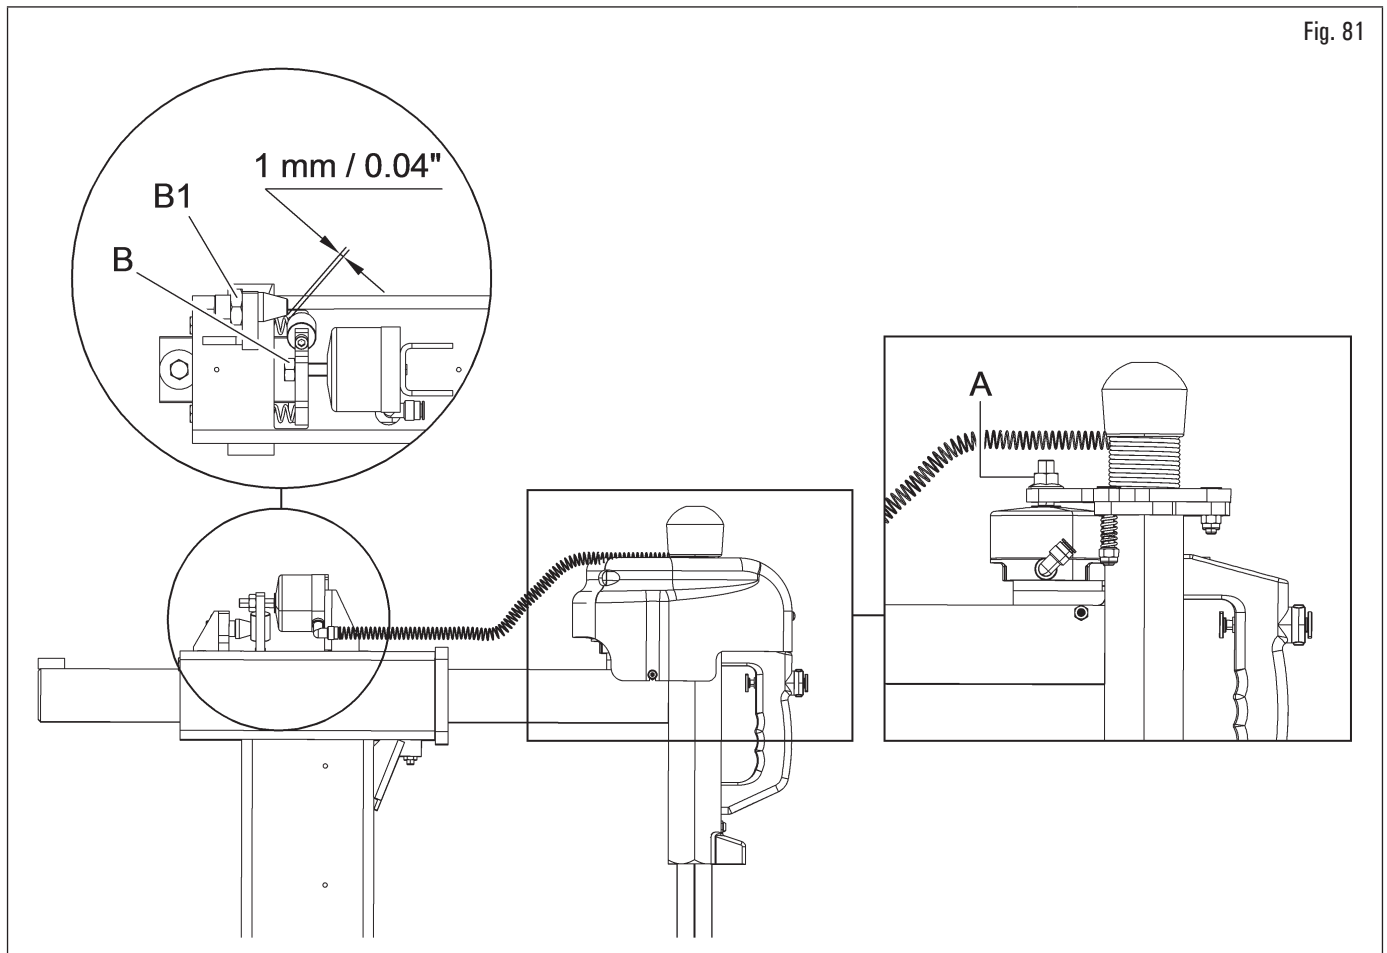

Fig. 81
- Setting the travel (Fig. 81).
The horizontal neck must be adjusted by turning nut B, when the air-operated cylinder has been depressurised (remove upper guard and tighten the nut B1 first to lock the cone in a fixed position with respect to the roller – see Fig. 81):